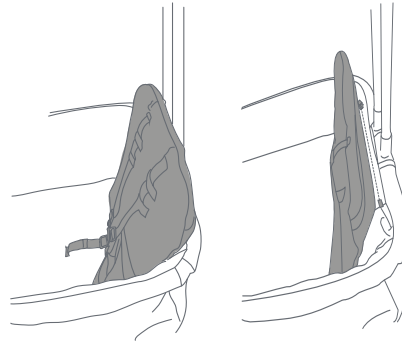

Fig. 14
- 14)** • To use the seats, zip in the seat back at an angle (Fig. 14).